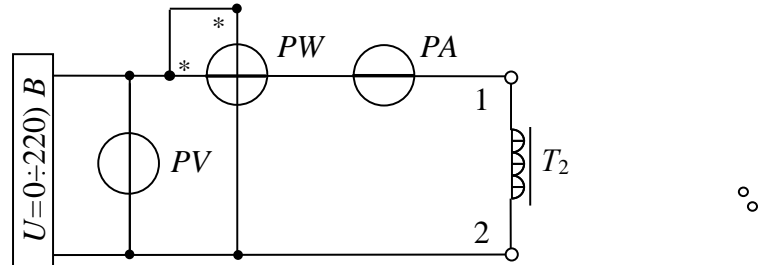

Fig. 8.4
1. Collect the electrical circuit (fig. 8.4)
The name and purpose of the work. The schematic diagram of the investigated circuit (fig.8.4). The tables 8.2, 8.3, 8.4. The characteristics graphs. Conclusions.